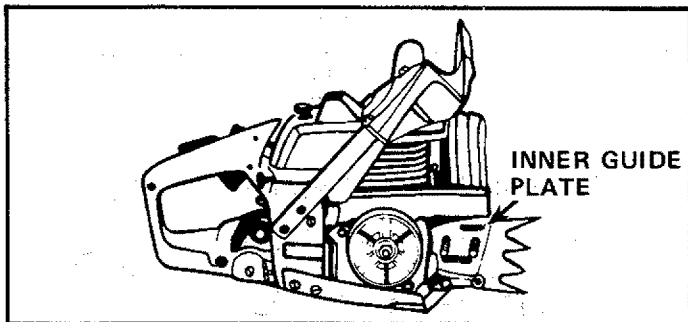

Figure 3
- a. Install the Inner Guide Plate over the bar mounting studs. Figure 3.
- i. Install the outer guide plate. Figure 3.